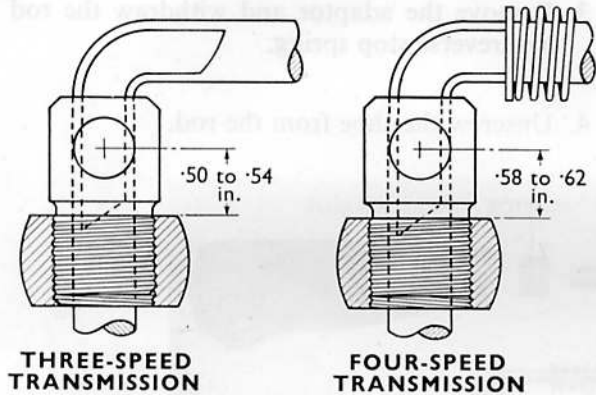

Fig. F.6. Gear shift lever pivot jaw adjustment
4. Lift the selector rod clear of the pivot jaw and adjust the height of the jaw to the specified dimensions (Fig. F.6).